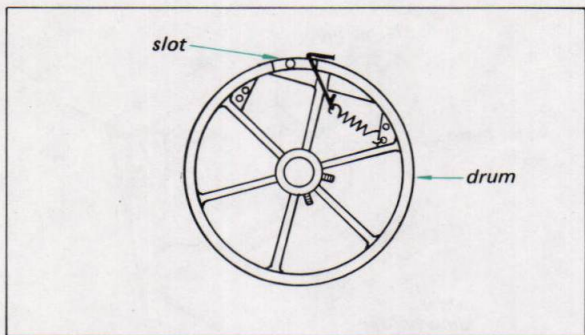

Fig. 2-8. Coil spring installation
1. Hook the spring to one hole of the drive drum, and then squeeze it as shown in Fig. 2-8.